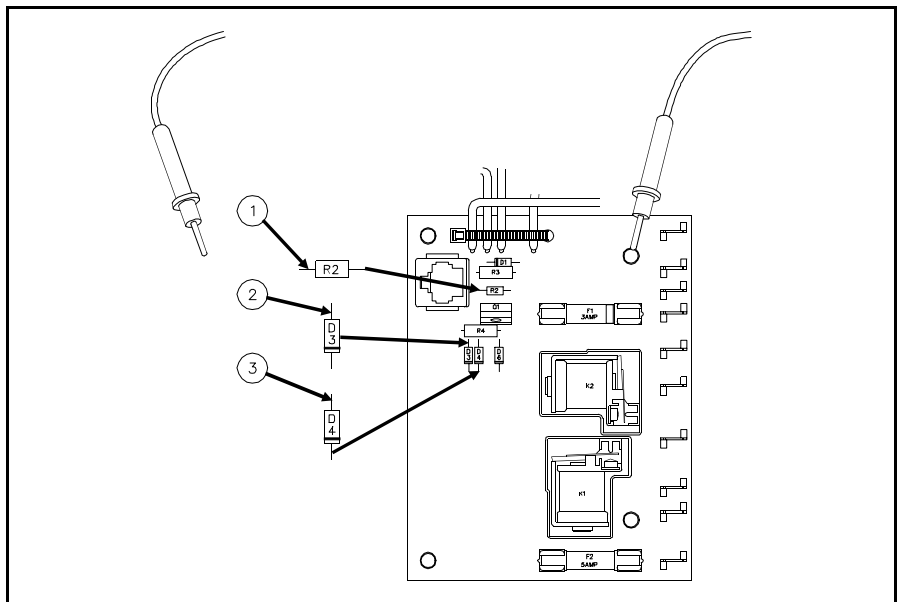

Figure 5.46 12 Volt DC Check
11. With the volt meter set to measure DC, check Points 1, 2 and 3 shown in Figure 5.46 for 12 volts DC. If you do not have 12 volts, replace the Power Supply.